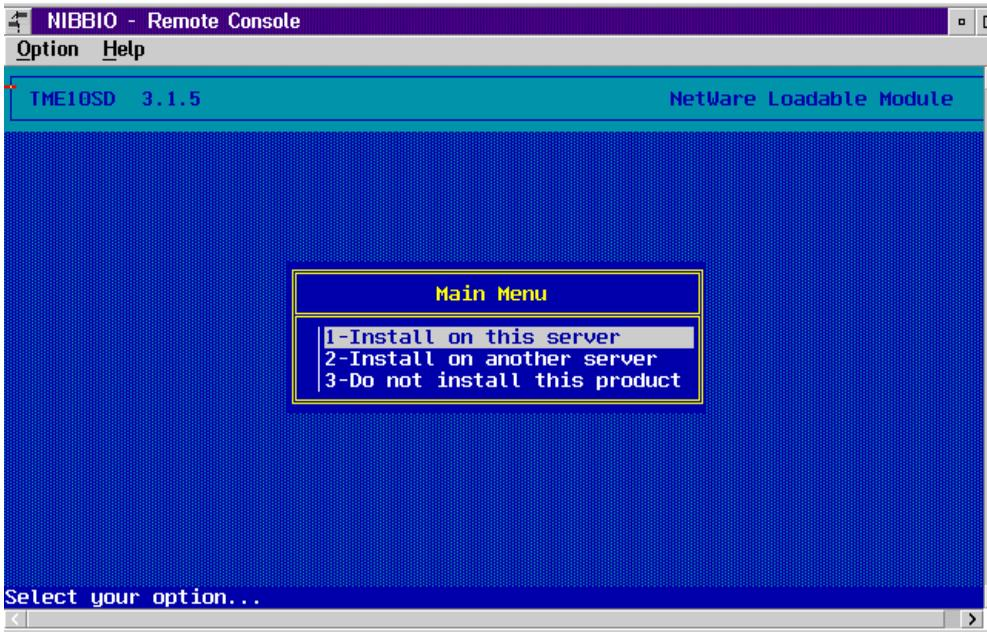

Figure 5. Server installation main menu
- 7** On the Main menu, shown in Figure 5 on page 48, specify whether you are installing on this NetWare server or another NetWare server.